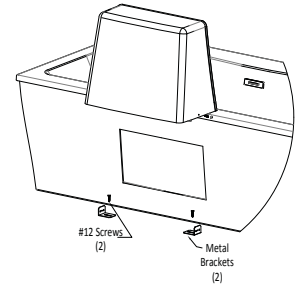

Figure 10a
- Measure 1.5" [3.8cm] from the marked location of the decorative screws and use the (2) included #12 screws to attach the brackets to the floor at these locations. **See Figure 10a**